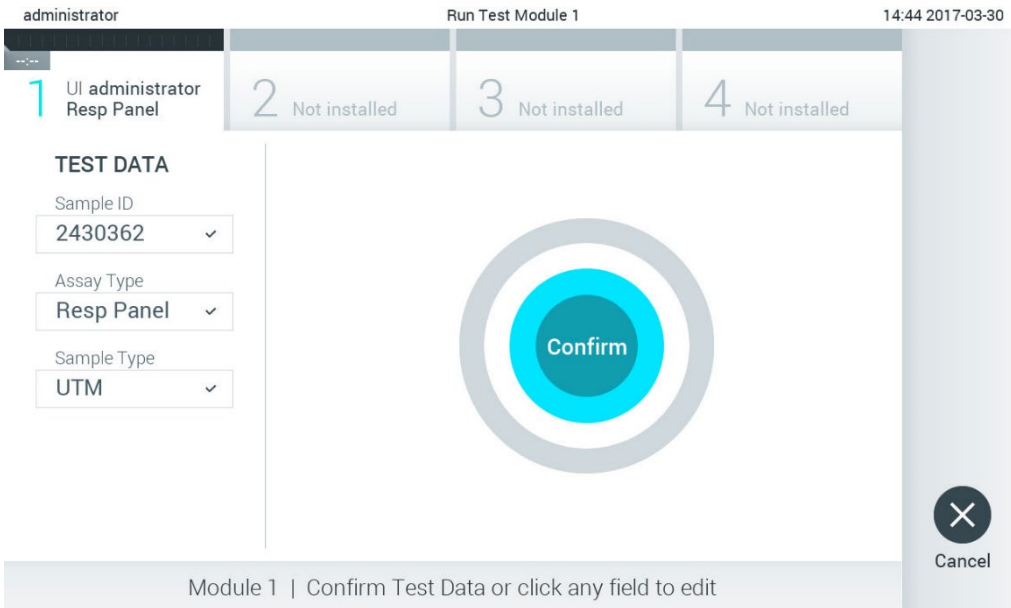

Figure 26. The Confirm screen.
5. The Confirm screen will appear. Review the data entered and make any necessary changes by pressing the relevant fields on the touchscreen and editing the information (Figure 26).